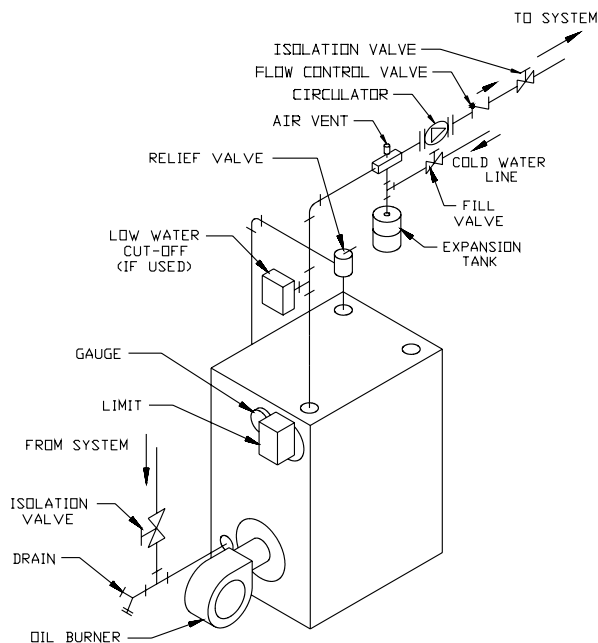

FIGURE 10: STANDARD BOILER PIPING
Figure 10 shows typical boiler system connections on a single zone system. Additional information on hydronic system design may be found in *Installation of Residential Hydronic Systems* (Pub. #200) published by the Hydronics Institute in Berkeley Heights, NJ. The components in this system and their purposes are as follows:
- 1) Relief valve (Required) - Mount the relief valve on the top left side of the boiler as shown in Figure 10 using the 3/4" nipple provided. The relief valve shipped with the boiler is set to open at 30 psi. This valve may be replaced with one having a pressure up to the "Maximum Allowable Working Pressure" shown on the rating plate. If the valve is replaced, the replacement must have a relief capacity in excess of the DOE heating capacity for the boiler.
- 2) Circulator (Required) - Figure 10 shows the ideal location of the circulator which is in the supply piping immediately downstream of the expansion tank. A less ideal, but acceptable, location for most residential circulators is in the return (if this is done, be sure that adequate clearance exists to open the door).